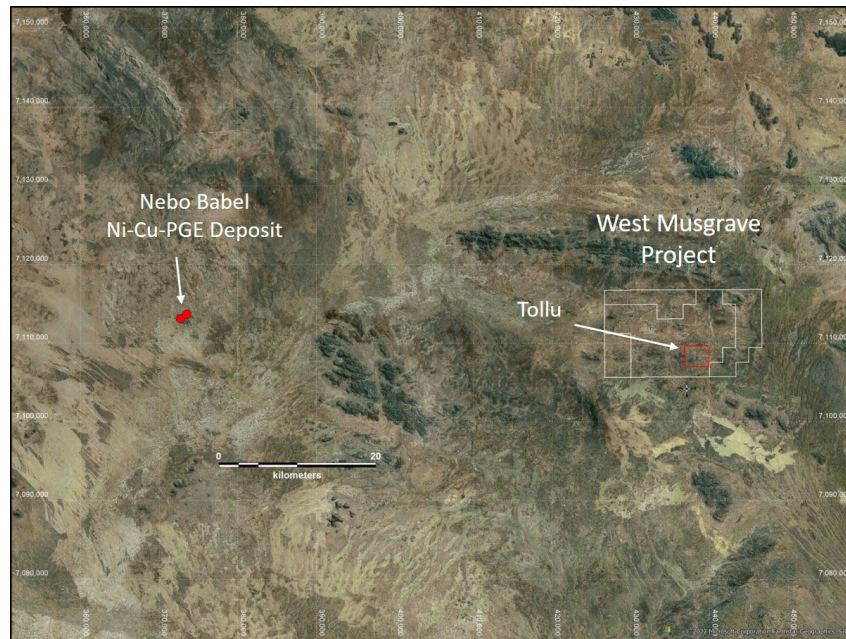

Figure 1 – Location of the West Musgrave Project in relation to the world-class Nebo-Babel Ni-Cu-PGE deposit.
- Further results from the Project, located only 40km east of the world-class Nebo-Babel Ni-Cu-Co-PGE deposit (see **Figure 1**), are pending.
The West Musgrave Project, which includes the Tollu Cu Vein deposit, is located 40 kilometres east of the world-class Nebo-Babel nickel-copper-PGE sulphide deposit and has the ideal geological and structural setting for large magmatic Ni-Cu sulphide deposits (Figure 1).